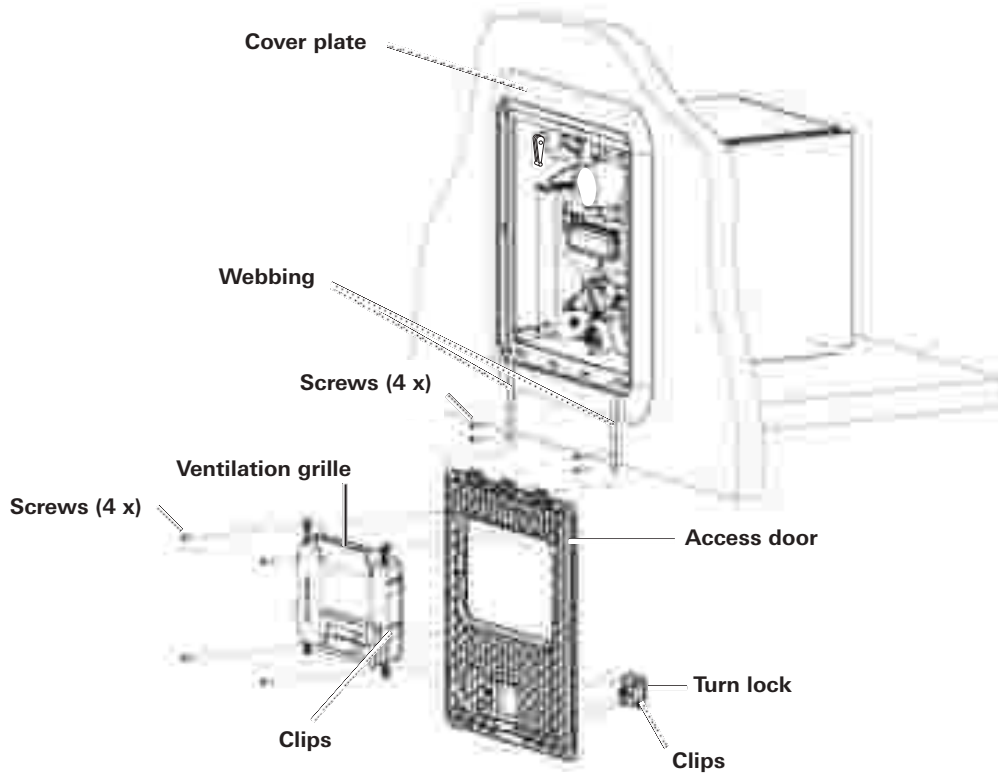

Fig. 36
The following parts (see Fig. 36) must not be painted:
- After removing the screws, depress the four (4) clips on the side of the ventilation grille and remove it as shown in Fig. 36.